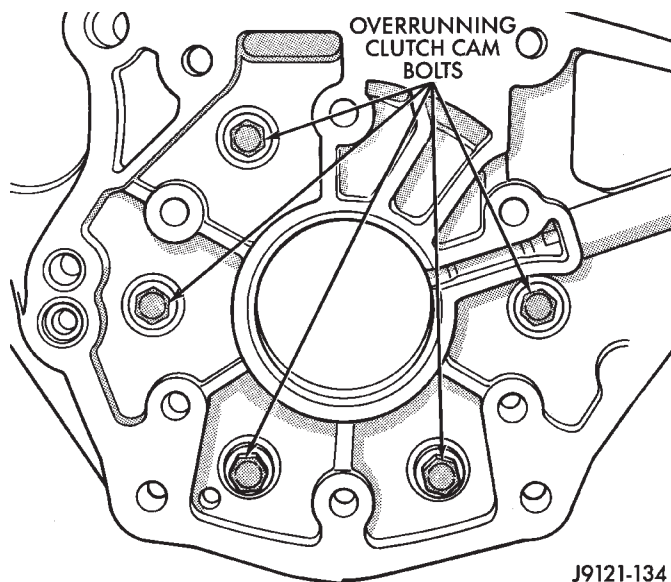

Fig. 83 Overrunning Clutch Cam Bolt Locations
(29) Remove bolts attaching overrunning clutch cam and low-reverse drum to transmission case (Fig. 83).